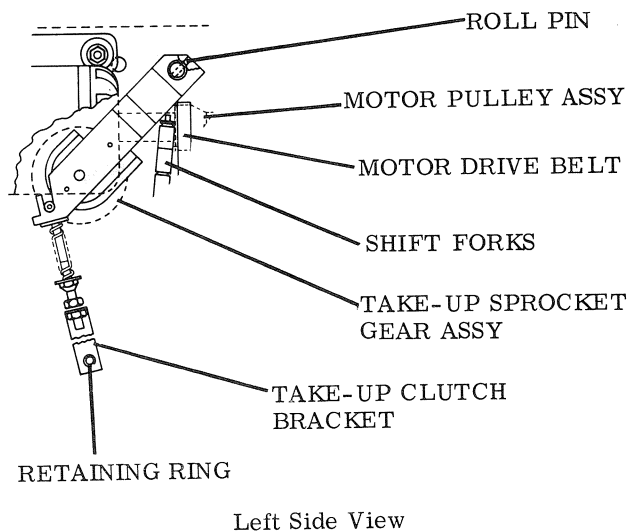

Figure 3-29. TAKE-UP CLUTCH ARM TO PROJECTOR
18. Take-up Clutch Arm to Projector (Figure 3-29)
a. Correct position for motor drive belt (Figure 3-29) should be 1/16" from flanged edge (nearest motor) of motor pulley assembly when projector is operated in FORWARD drive at SOUND speed.